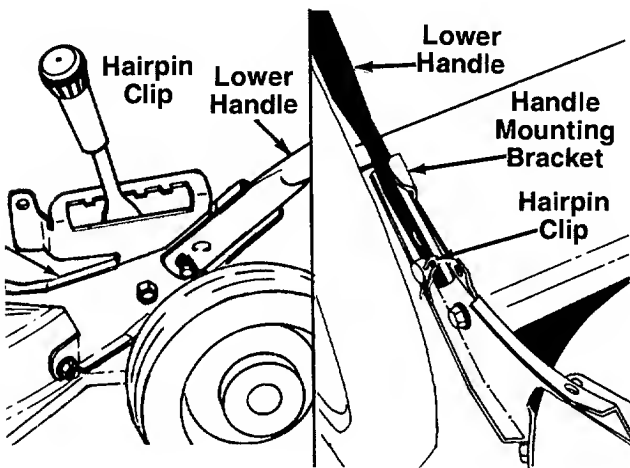

FIGURE 1.
- See figure 1. Repeat on other side.